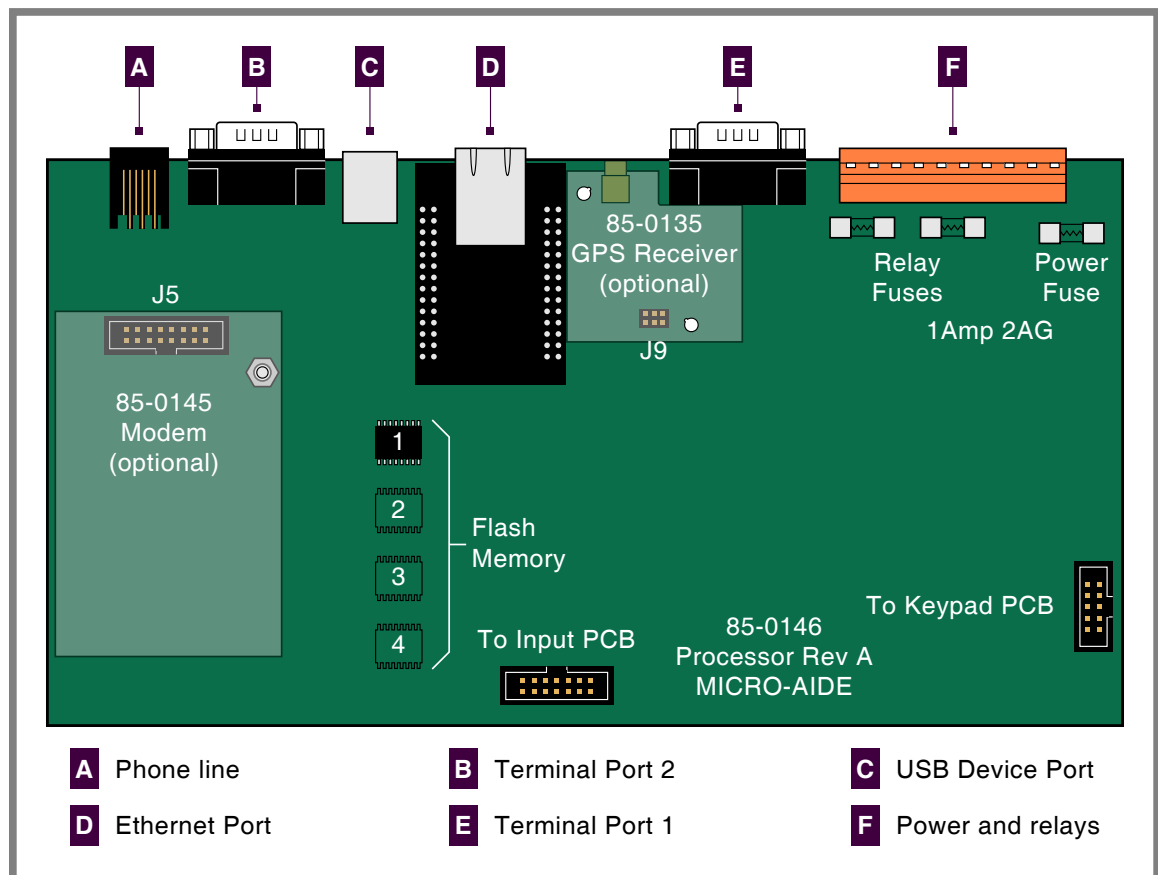

Figure 8: Processor PCB
There are three fuses mounted on the Processor PCB. The fuses are designed to protect the input power source and the contacts of the two output relays. Each are rated at 1 A and conform to the 2AG size standard. Before replacing a fuse the cause of the blown fuse should be ascertained and cleared if possible. The fuses are illustrated in Figure 8 on page 85.
Generally, the GPS Receiver is ordered at the time the recorder is purchased and is pre-installed at the factory. If the receiver was not previously ordered, it can be installed by the user. To install the receiver follow the steps listed in the following. The GPS Receiver PCB is illustrated in Figure 8 on page 85.
3. Locate the 6-pin female socket labeled "J9" near the top-center edge of the Processor PCB. The socket is illustrated in Figure 8 on page 85.
Generally, the modem PCB is ordered at the time the recorder is purchased and is pre-installed at the factory. If the modem was not previously ordered, it can be installed by the user. To install the modem follow the steps listed in the following. The modem is illustrated in Figure 8 on page 85.
2. Locate the 16-pin female socket labeled "J5" along the left edge of the Processor PCB. The socket is illustrated in Figure 8 on page 85.